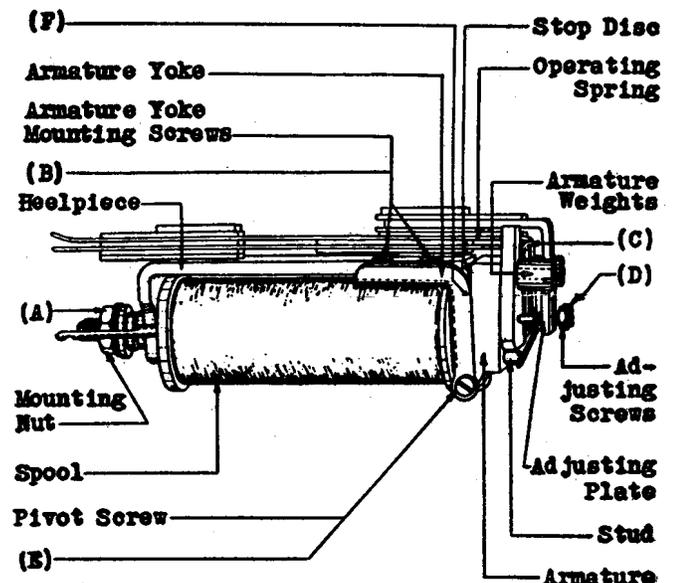

Fig. 4 - 366-type Relay
**2.22 Relay Mounting:** Fig. 4(A) — The spool shall be fastened securely to the heelpiece and the heelpiece shall be fastened securely to the base plate. The base plate shall be fastened securely to the mounting strip.
**2.24 Tightness of Armature Yoke:** Fig. 4(B) —
**2.25 Separation Between Springs:** Fig. 4(C) —
**2.26 Tightness of Adjusting Screws:** Fig. 4(D) —
**2.27 Armature Movement:** Fig. 4(E) — The armature shall move freely on its pivot screws.
**2.28 Clearance Between Armature and Yoke:** Fig. 4(F) — The armature shall clear the sides of the armature yoke by